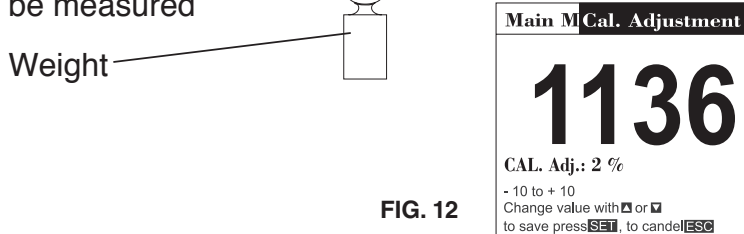

FIG. 12
1. Select the **Cal. Adjustment** menu item from the main menu (Fig. 12)